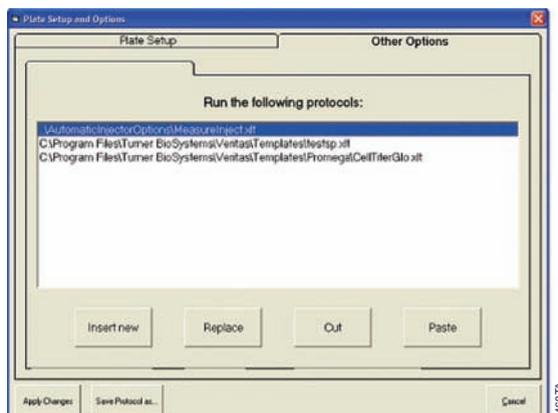

Figure 16. Selecting the order of execution for each subprotocol of a Super Protocol.
3. Click on “Options” then the “Other Options” tab to assemble the order of execution for each individual subprotocol (Figure 16).